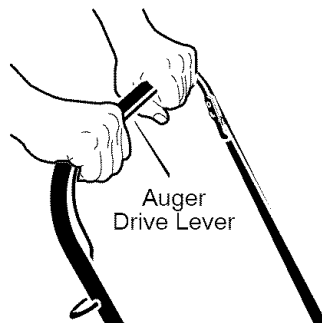

Figure 5
1. Hold the **auger drive lever** against the **handle** (See Figure 5). The auger will begin rotating.